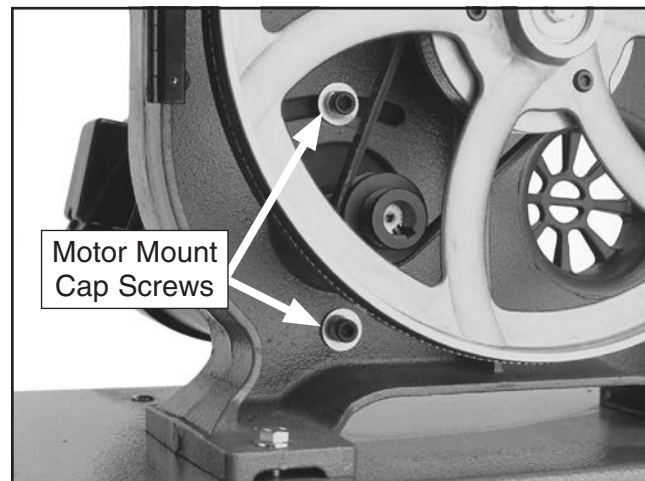

Figure 60. Locations of the motor adjustment and hinge cap screws.
2. Open the lower wheel cover, and loosen the motor adjustment and hinge cap screws shown in **Figure 60**.